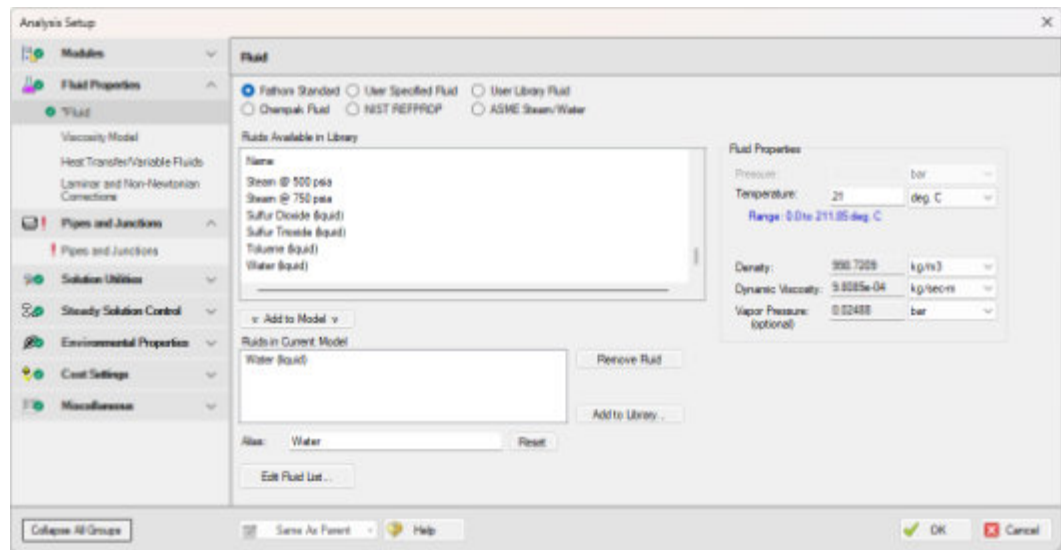

Figure 3.1 Fully specified fluid panel in the Analysis Setup
5. The Fluid panel should resemble Figure 3.1. Click OK.